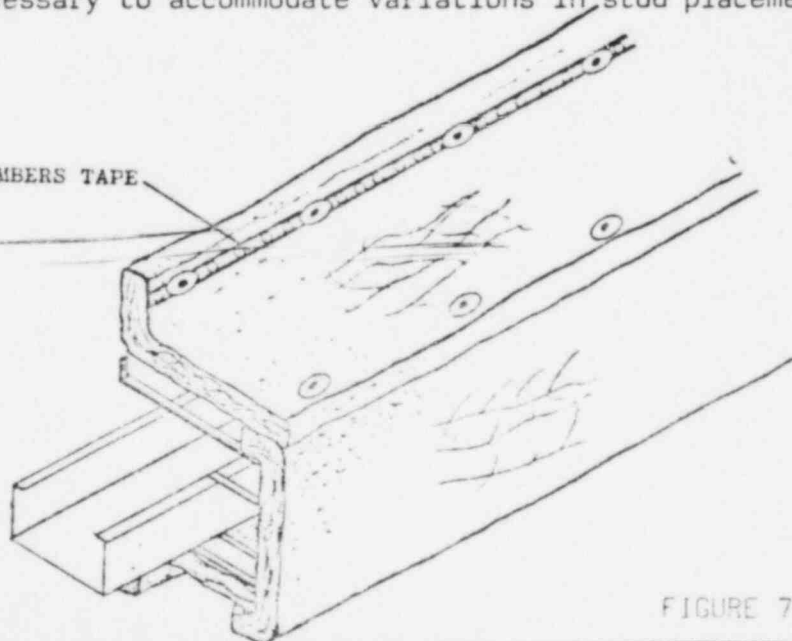

FIGURE 7
6.3.3 Plumbers tape must be installed in the areas where the blanket system is attached to a wall or ceiling. The plumbers tape is to be installed over the studs after the blanket is installed and prior to the fender washer and locknut. (See Figure 7). Tape should be kept as tight as possible to prevent the blanket from sagging away from the wall creating a passage for heat and/or flame. Additional holes in plumbers tape may be made as necessary to accommodate variations in stud placement.